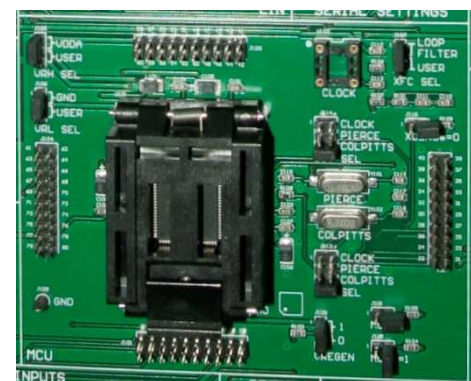

Figure 1.4 MCU section
MCU section – The Freescale HCS12(X) microcontroller is connected to the board using an 80 pin QFP ZIF (Zero Insertion Force) socket. All the microcontroller pins are accessible through four 20 pin header connectors which are mounted around the socket. The clock source can also be selected in this section as illustrated in Figure 1.4. By using the J13 and J14 jumpers, in the MCU section, the following selection can be made: Clock, Pierce and Colpitts. The clock source configuration is discussed in detail in section 1.2.2.